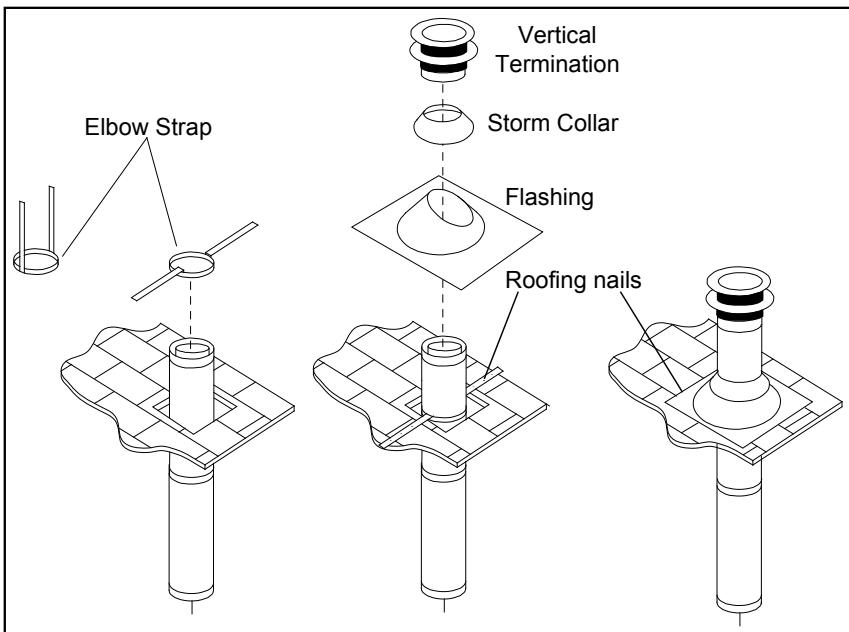

Figure 33. Vertical Vent Termination
STEP 6. Once the pipe sections have been joined, and run up through the hole in the roof, slip an elbow strap over the exposed sections, bend the support straps outwards, and push the elbow strap down to the roof level, as shown in Figure 33. Tighten the clamp around the pipe section. Use a level to make sure the pipe is truly vertical. With roofing nails, secure the support straps to the roof. Seal the nail holes heads with non-hardening mastic. Trim the excess length of the support straps that extend out beyond the edge of the flashing.
STEP 9. Slip the storm collar over the pipe, and push it down to the top of the roof flashing as shown in Figure 33. Use the non-hardening sealant around the joint between the pipe and the storm collar.